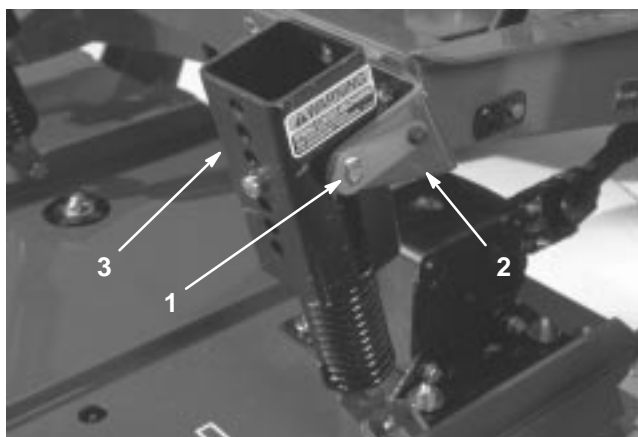

Figure 21
2. Disconnect the counterbalance from the traction unit, remove the lock pins from the brackets, separate the spring tension assemblies from the brackets, and lay them down on the deck. Loosely secure the lock pins to the brackets to prevent from losing them (Fig. 21).